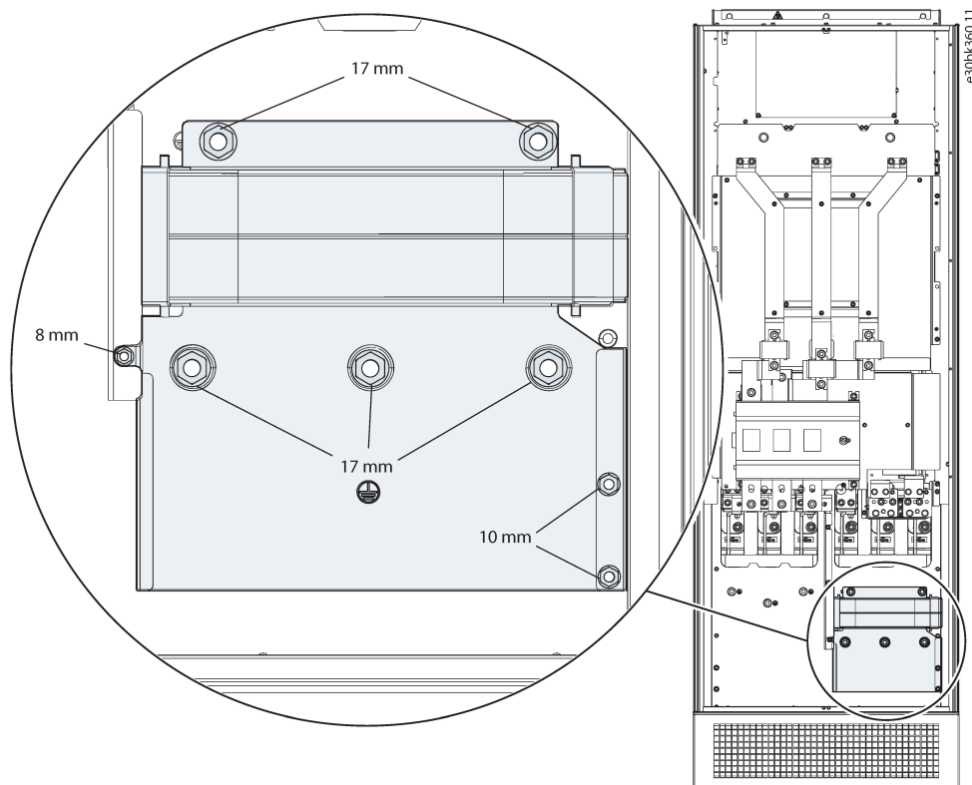

Figure 5: Common-mode Filter Installation
1. Position the common-mode filter below the motor terminal block and to the right of the EMC shield. The common-mode filter fits over the studs where existing fasteners were removed. See Figure 5.